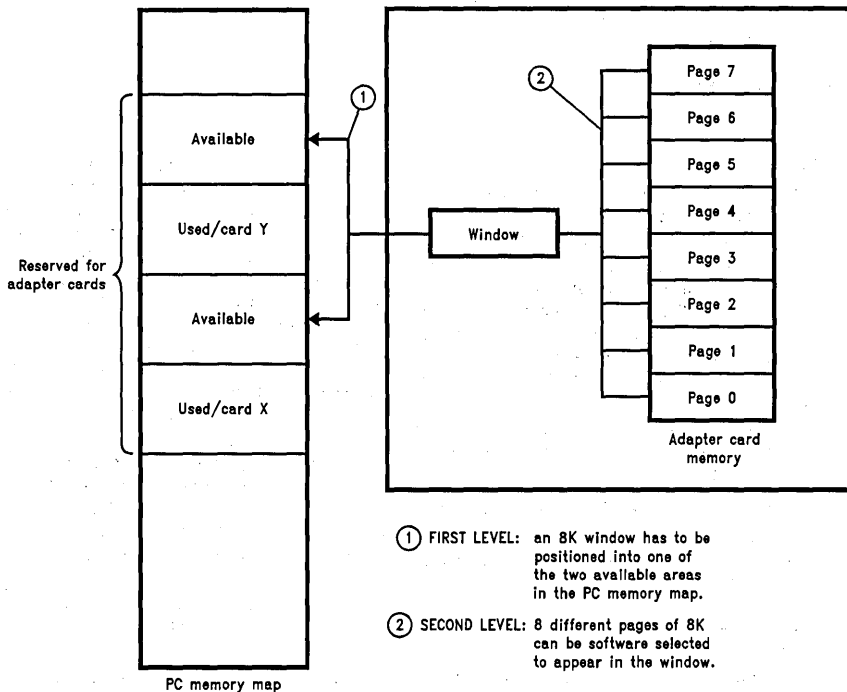

FIGURE 1. Partitioning of 64K of Memory through an 8k Window Positioned into One of Two Available Areas in the PC Memory Map
2.1 If the adapter card contains memory accessible from the PC main board, up to two different levels of mapping may take place depending on the size of the memory. For a small memory size (let's say 8K or less), the entire area will be linearly accessible from the PC but its location will have to be mappable at different places into the range reserved for the adapter cards, thus ensuring that it will not interfere with any other cards using parts of this range. For larger memory, a second level of mapping is required, partitioning the memory into software selectable windows of 2K, 4K, 8K, etc. which location will still be mappable into available areas as described above (see *Figure 1*).